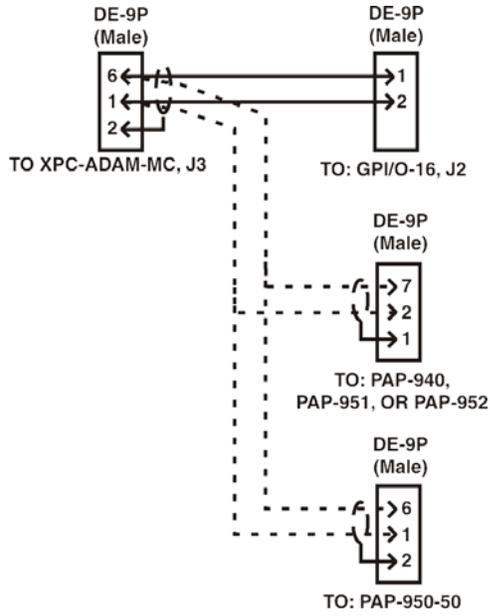

FIGURE 7. Y-Cable Diagram
1. Using a Y cable(Figure 7), connect the **J3 output** of the ADAM MC to the **J2** on the UIO-256/GPIO-16.